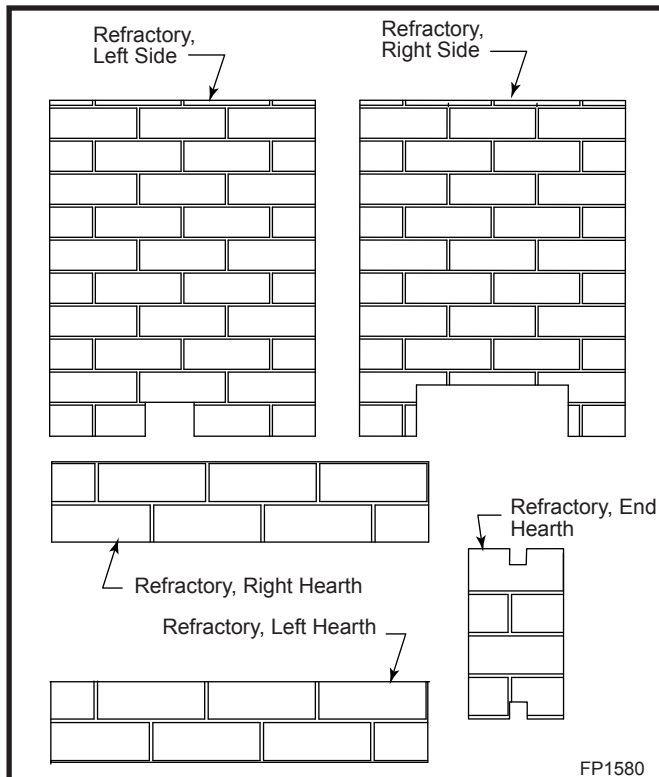

Fig. 40 Ceramic refractory panels.
1. Using a Robertson screwdriver, remove the two (2) nuts holding each fettle to the burner assembly.
2. Identify the side refractory. The refractory with the small cut out at the bottom must be installed on the side where the plumbing for the pilot and manifold are. The other side refractory has a larger cut out at the bottom. This is designed to allow the opening for the fresh air coming to the combustion chamber unobstructed. (Fig. 40)
3. Start with either the right side refractory or left side refractory. Hold the refractory at an angle. Slide and seat the bottom edge toward the bottom of the firebox. Tilt it carefully toward the side until the piece is in place. Using the two (2) brackets and four (4) screws provided with the refractory kit, fasten each bracket to the top of the firebox on each side. **NOTE:** Use existing holes in firebox.